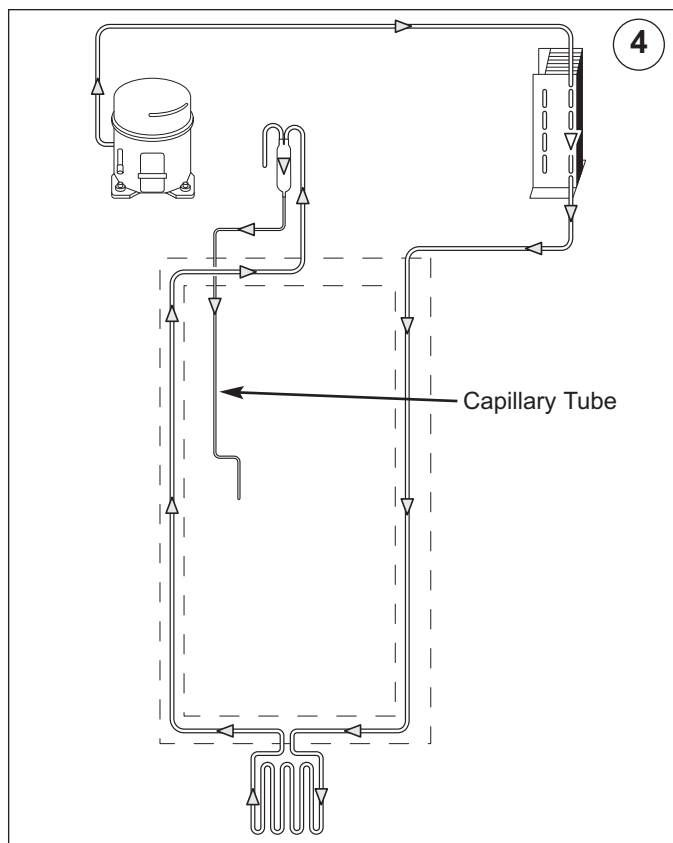

Figure 4-4. Capillary Tube (Part of Heat Exchanger)
(4) - Capillary Tube (Part of Heat Exchanger) (Fig. 4-4)